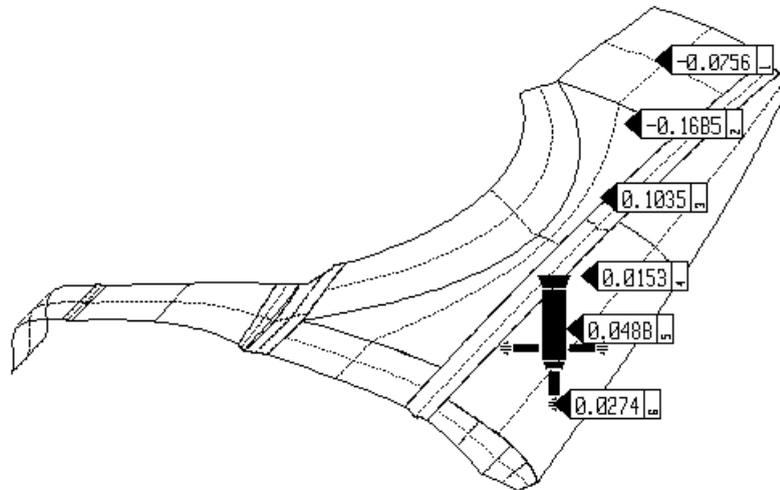

Figure 8-2
- In addition to the graphical representation of the deviation, a window will be overlaid displaying the coordinates of the points and its deviation relative to the tolerance range. If you manually probe further points, their deviation will be displayed in the same window and you will receive a complete deviation distribution. (see Fig. 8-2).